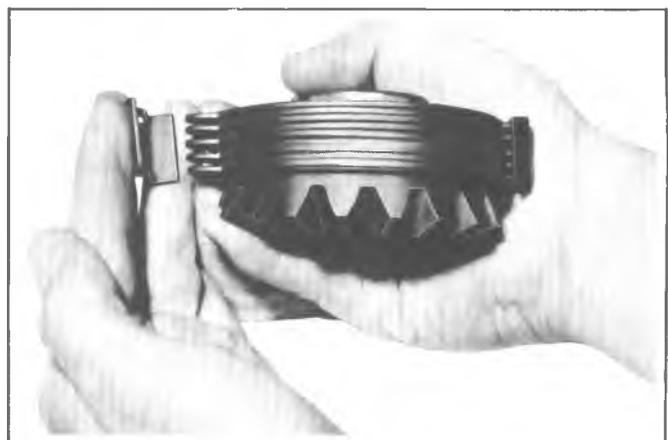

Fig. 9D--Assembling Clutch Pack
2. Alternately position clutch plate and clutch disc on side gear, beginning and ending with clutch plate, until assembly of clutch pack is complete. See figure 9D.